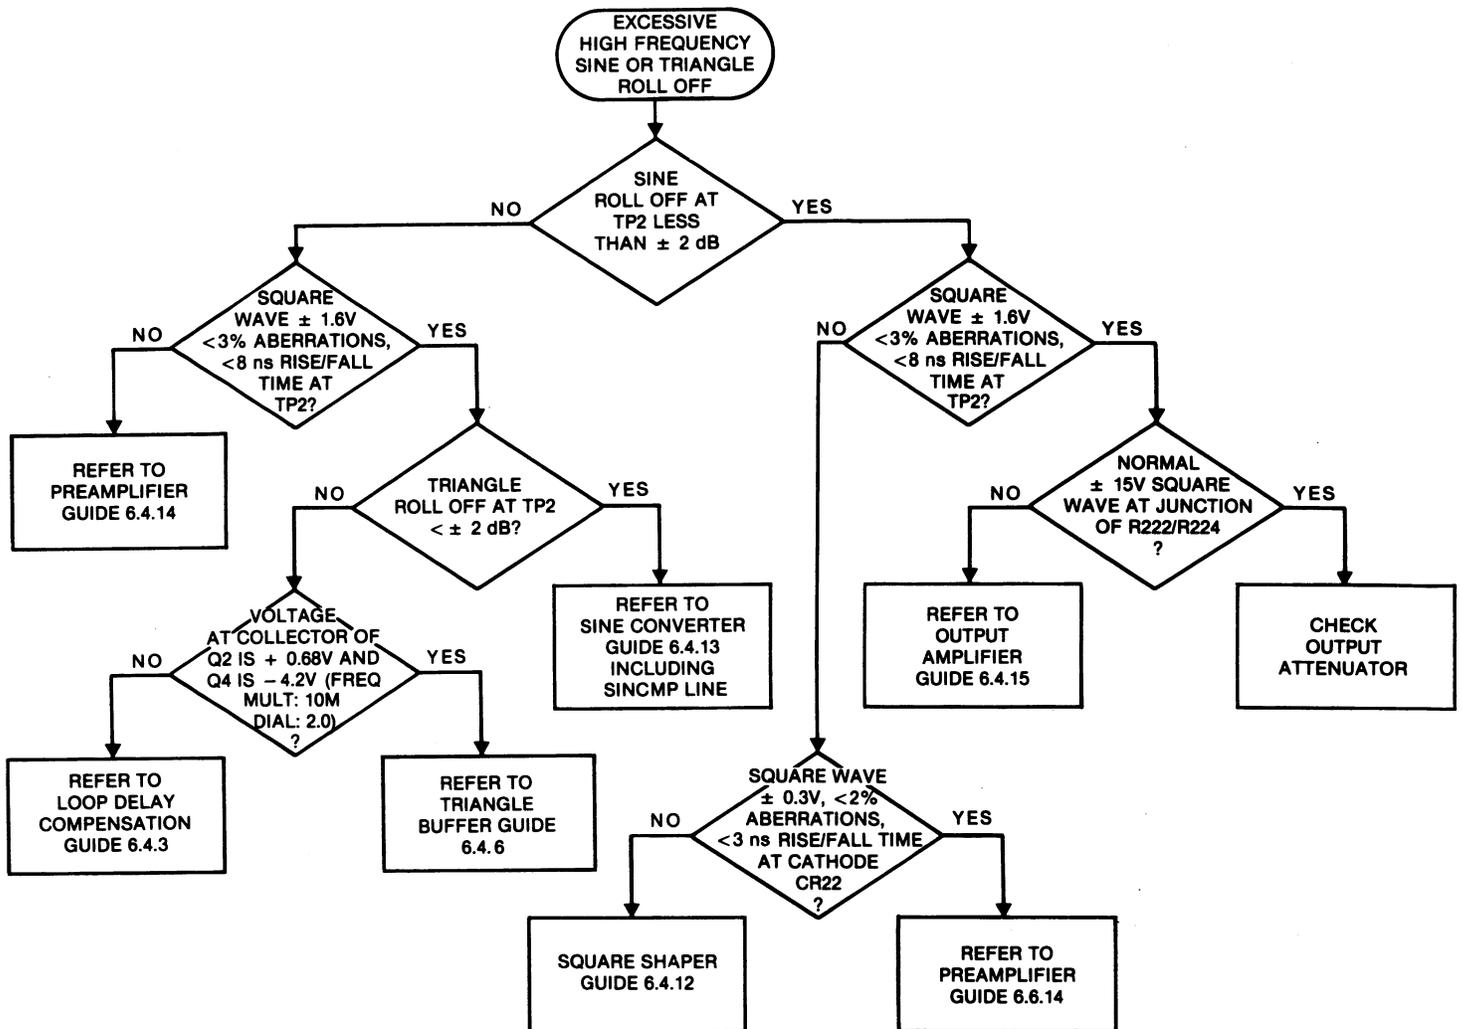

Figure 6-5. High Frequency Waveform Troubleshooting
2. If none of the above conditions apply, refer to figure 6-5. Use a X10 probe with a very short ground lead and a spectrum analyzer, RF voltmeter or a 200 MHz bandwidth scope when performing sine or triangle roll-off tests.